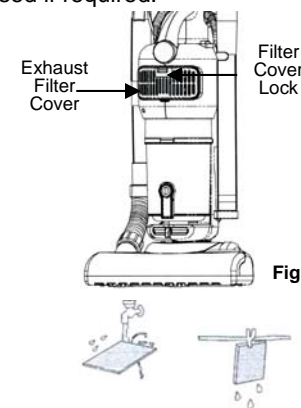

Fig. 17
- To remove the exhaust filter cover, depress the filter cover lock and pull the filter cover out. Remove the filter. (Fig. 17)